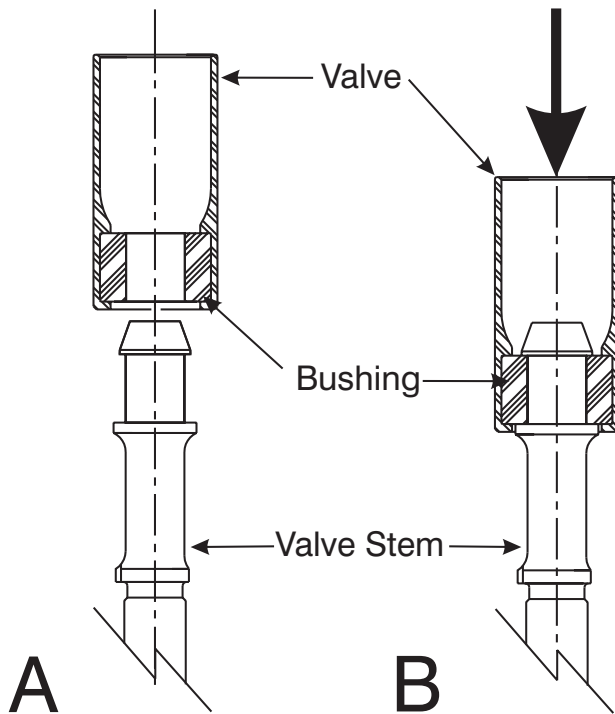

Figure 9-6. Press Valve and Bushing onto Valve Stem.
7. With the non-threaded end up, place the Valve Stem in an arbor press, as shown in Figure 9-6-A.
8. Center the assembled Valve and Bushing over the Valve Stem, as shown in Figure 9-6-A.
9. Center the press plunger over the Bushing (5).